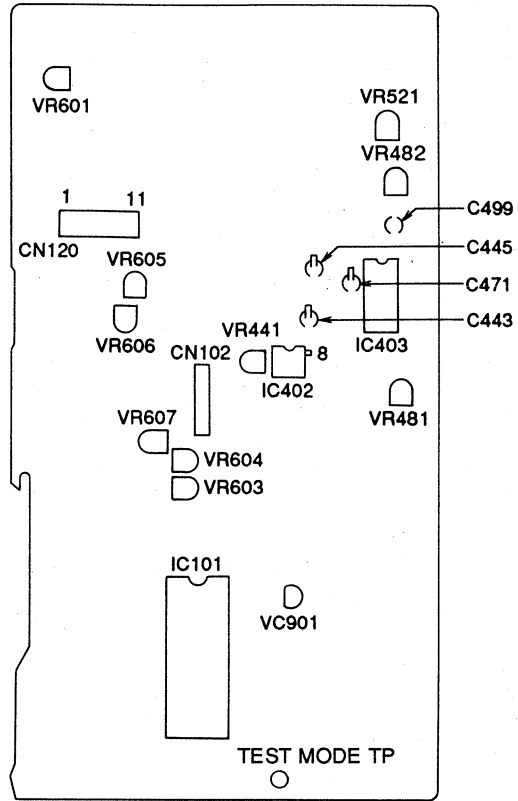

Fig. 2 MAIN assembly section
1. While power is ON, connect the Test mode TP (Fig.2) to the GND for about one second.